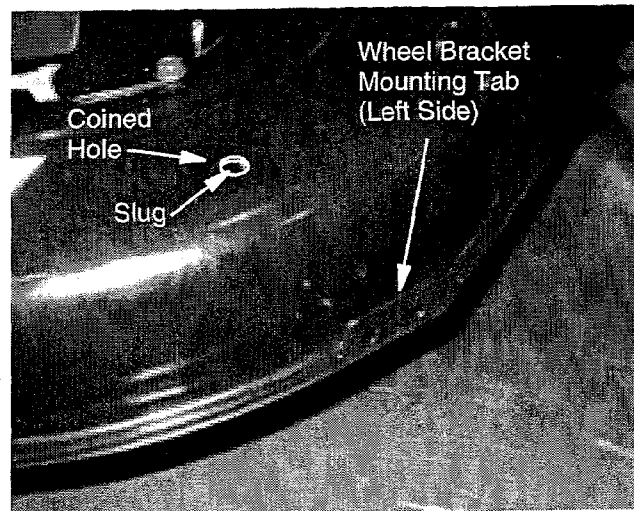

Figure 2
- Locate the coined hole on either the left or right side of the deck. See Figures 2 and 3.